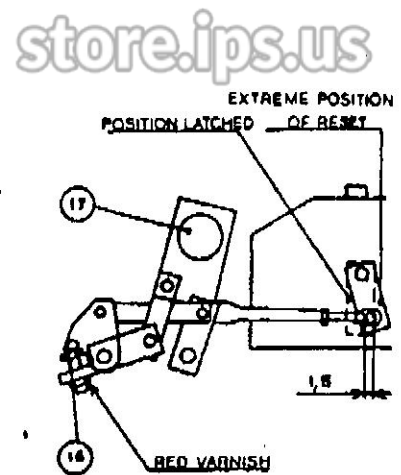

Fig. 14
- 1) Breaker equipped with signal dication with memory for overload and short circuit release (with without indication.) (Fig. 14).
- a) Adjustment. When breakers equipped with this accessory is necessary to place breaker open position and adjust screw (16) to effect latching the lease. A very distinct click indicates latching. To insure margin of safety, unscrew $\frac{1}{4}$ a turn.
1) Adjustment. With the breaker in the open position and the release bar latched as illustrated in Fig. 14, adjust screw (30) lengthening linkage until stirrup is against stop (29), then back off $\frac{1}{2}$ turn.